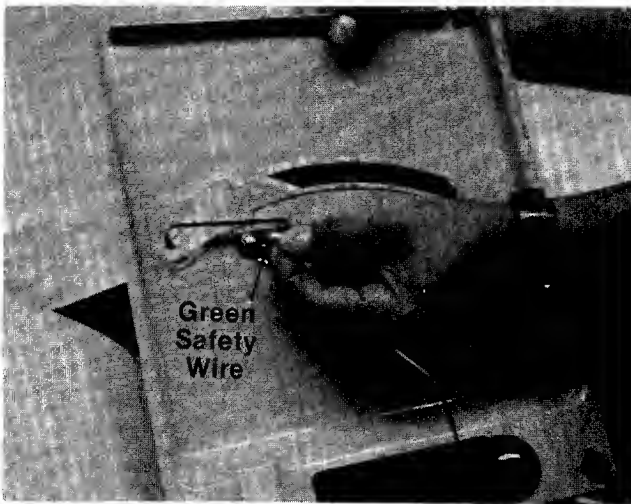

FIGURE 8.
3. Lift the transmission cover. Unplug the green safety wire from beneath the transmission cover. See figure 8. Remove transmission cover.
10. Plug the green safety wire into the switch beneath the transmission cover. Refer to figure 8. Replace the transmission cover and gear shift knob.